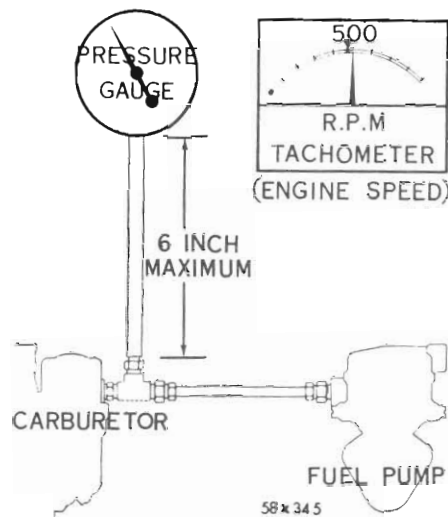

Fig. 5 - Pressure testing fuel pump
(1) Insert a "T" fitting in the fuel line at the carburettor, as shown in Fig. 5.
(2) Connect a 6" piece of hose between the "T" fitting and gauge (E14C 35). (The hose